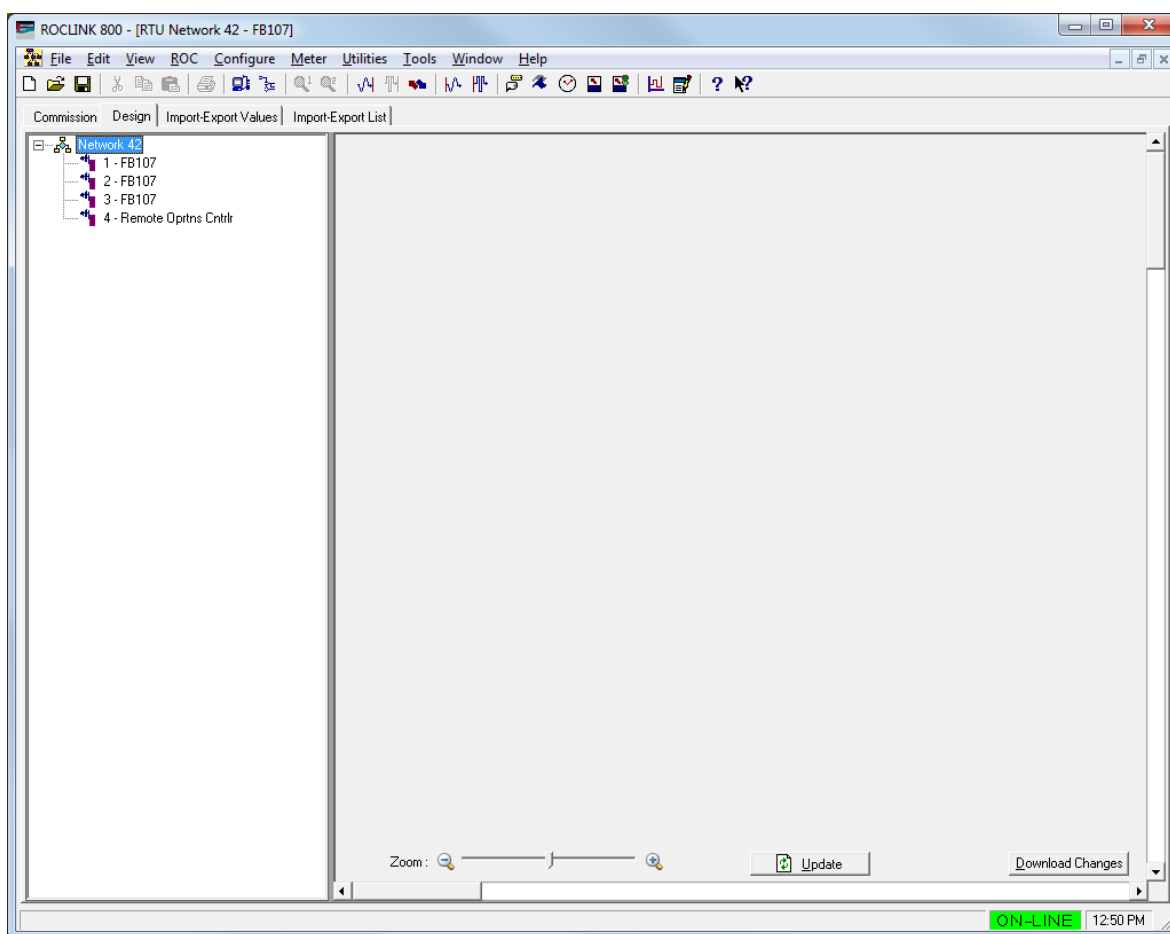

Figure 3-15. Blank Design Workspace
1. Select the **Design** tab to display the design workspace (see *Figure 3-15*).